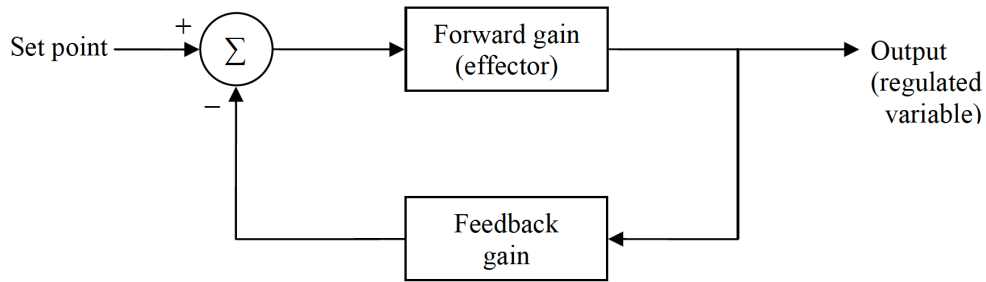

Figure 2: Function of muscle spindle during a monosynaptic stretch reflex.
This entire system can be generalized as a control system in which a regulated variable (e.g. the spike frequency of the stretch receptor) is continuously adjusted by negative feedback. Fig. 2 shows a generalized diagram of a negative feedback control system. The set point is the desired value of the regulated variable. The forward and feedback gain represent places where the signal is multiplied by some value. The output is measured by a detector and fed back to an integrating center (the summation sign in the diagram), which takes the difference between the set point and feedback. This difference is used
8. How do the muscle response magnitudes during the Jendrassik maneuver compare to the regular procedure? Recall the negative feedback diagram (Fig. 2). Which variable do you think has changed?